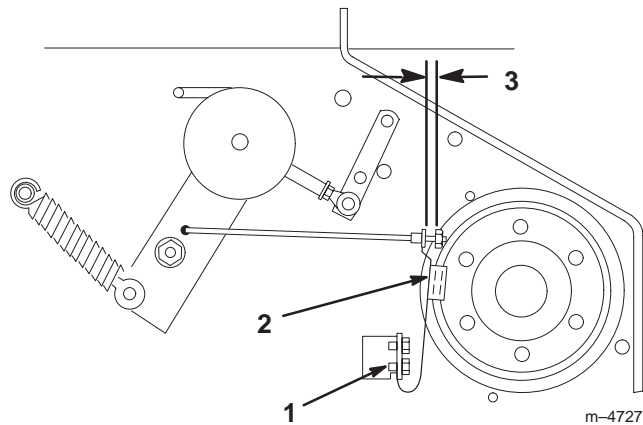

Figure 51
3. If necessary, adjust the spring mounting bolts so that the blade brake pad rubs against the pulley edges (Fig. 51).
4. Adjust the nut at the end of the blade brake rod until there is 1/8–3/16 inch (3mm–5mm) between the nut and spacer (Fig. 51).